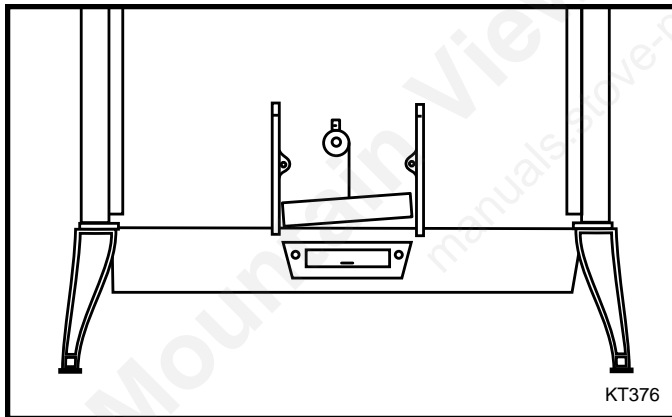

Fig. 2 Rear view of stove.
11. Hand turn a 3/16" drill bit through the hole in the back of the stove for the secondary probe thermometer. Install the thermometer by sliding it through the hole and fasten in place with a Phillips head screw. When positioned properly, the tab at the end of the secondary coil will be in the 4- to 5-o'clock range (when looking at the back of the stove). (Fig. 2)
12. Connect the slender steel link between the secondary thermometer coil and the secondary air valve (shown in Figure 2 and Fig. 3, Item 23). Make sure the valve can pivot freely on the bolt.